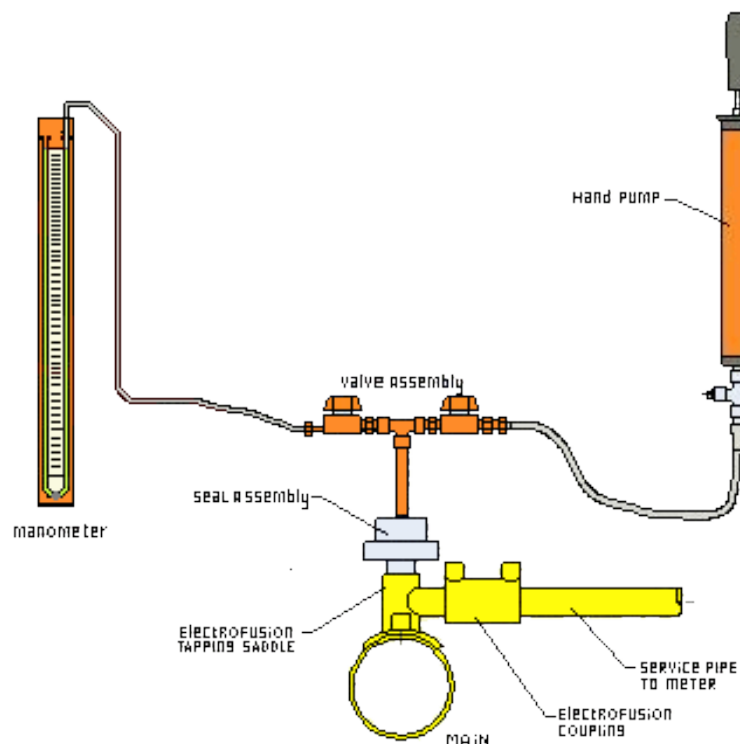
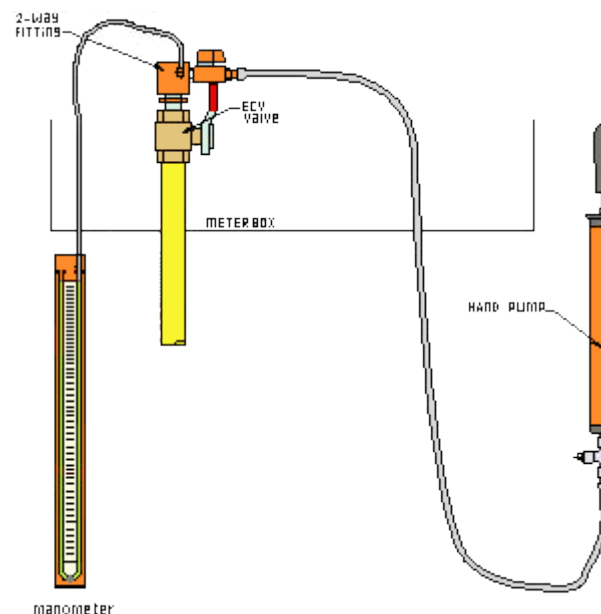

Figure 102 - Tapping Tee Testing Setup
Figure 103 - ECV Testing Setup
1. Typical service test equipment setup used for all low-pressure service testing is shown in Figure 102 - Tapping Tee Testing Setup & Figure 103 - ECV Testing Setup.
2. The test equipment must be attached to either to the ECV (Figure 103) or the mains service tee as shown in Figure 102.
5. Introduce air slowly using a hand pump through the test apparatus attached. (see Figure 103).